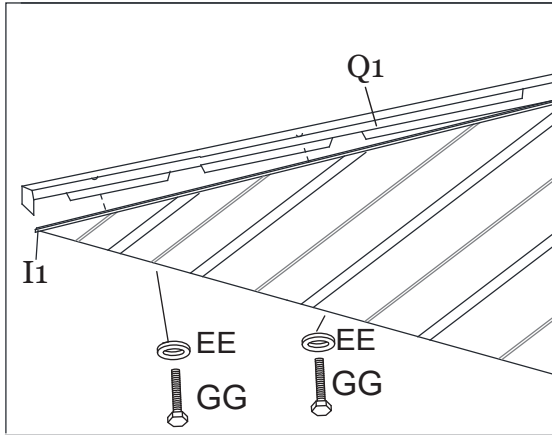
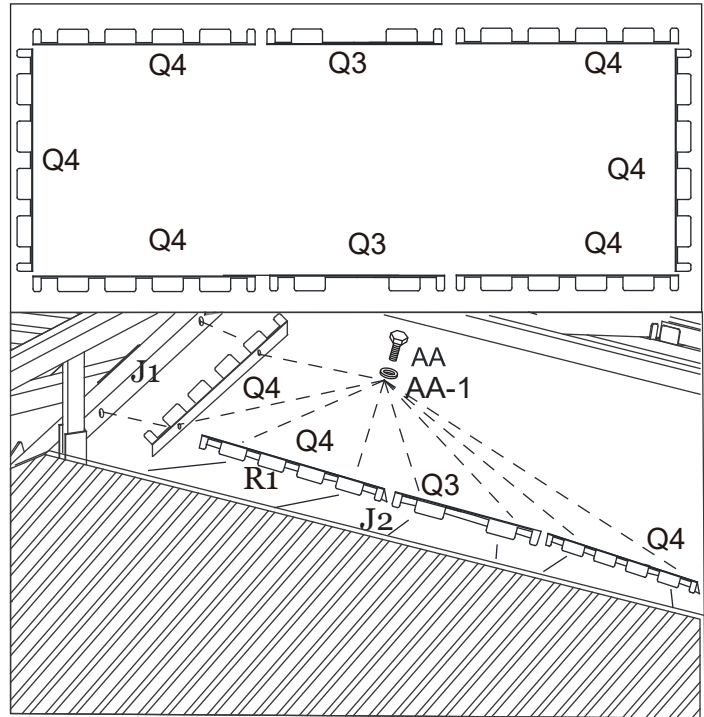
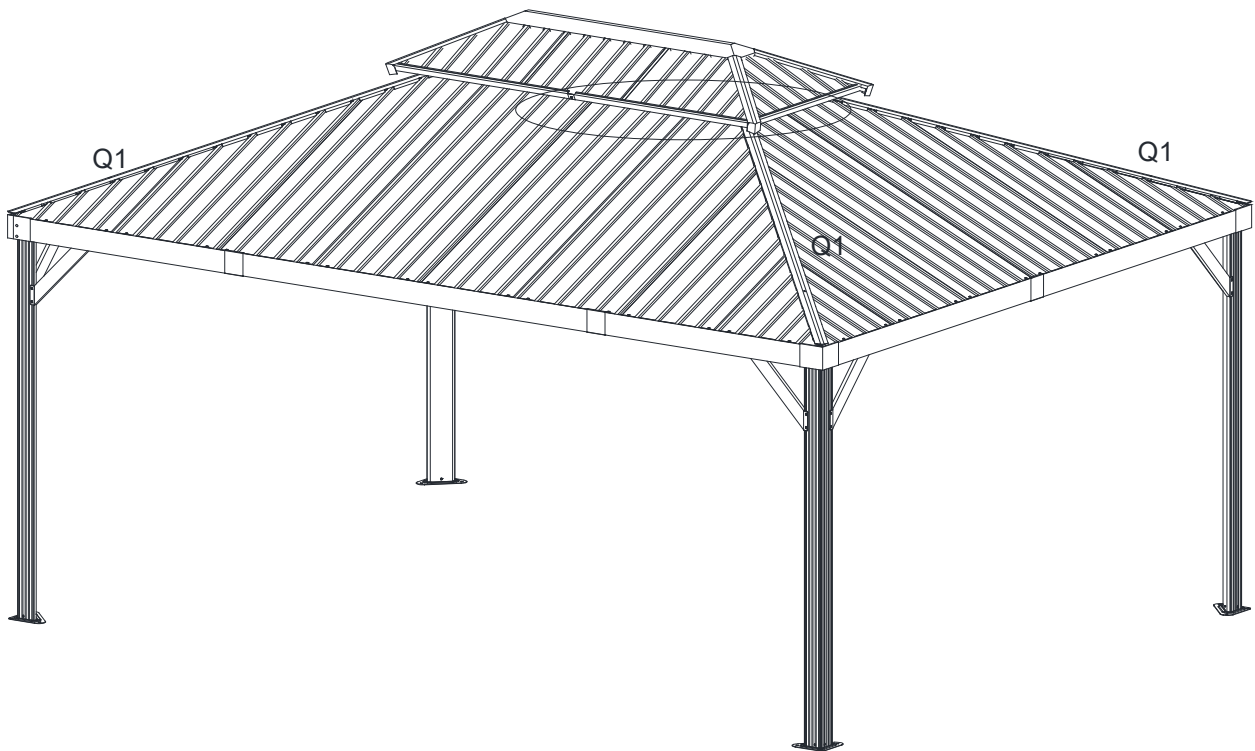

Figure 17-1
Figure 17-2
Figure 17-3
17.1: Attach the Main Roof Corner Trim (Q1) to the Main Roof Corner Support (H) using Bolt (GG) and washer (EE). Repeat for all corners. Tighten All Bolts. See Figure 17-1 and Figure 17-3.
17.2: Attach the Main Roof Center Frame Trim (Q3/Q4) to the Main Roof Center Frame (J1/J2) using Bolts (AA) and Steel washer (AA-1). Repeat for all sides. Tighten all Bolts. See Figure 17-2 and Figure 17-3.